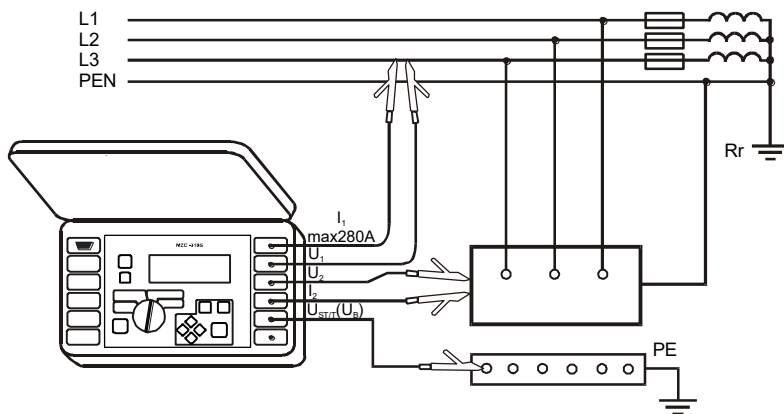
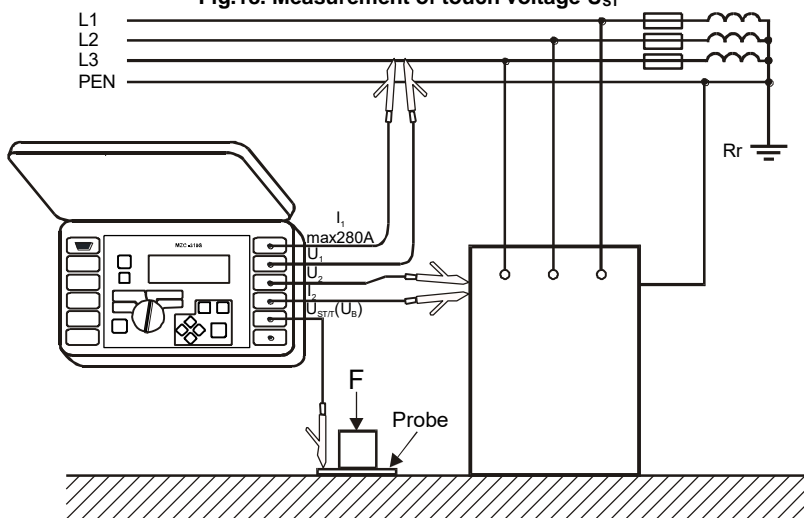

Fig.18. Measurement of touch voltage U_{ST}
Fig.19. Measurement of shock voltage U_T
In the short-circuit loop parameters measurement (2p or 4p) mode, the instrument constantly monitors the network voltage and frequency in the way described in section 6.6. Their values are displayed at the bottom of the screen. Index attached to the voltage U symbol informs the user whether the phase voltage - U_{LN} , or the inter-phase voltage - U_{LL} is measured, or whether the voltage value exceeds the ranges shown in Fig.19. - U_{Σ} . The same rules to determine the voltage type apply to the voltage measured while measuring the short-circuit loop impedance.
- Connect test leads as in Fig.18 for U_{ST} or as in Fig. 19 for U_T .
The measurement of touch shock voltage U_T is performed after introducing an additional resistor (inside the device) of 1k Ω between the terminals U_2 and $U_{ST/T}$ (U_B). The resistor simulates resistance of the human body, while the terminal $U_{ST/T}$ (U_B) is to be connected to the probe that simulates human feet located on the ground (Fig.19), whose properties and load are described by relevant standards.